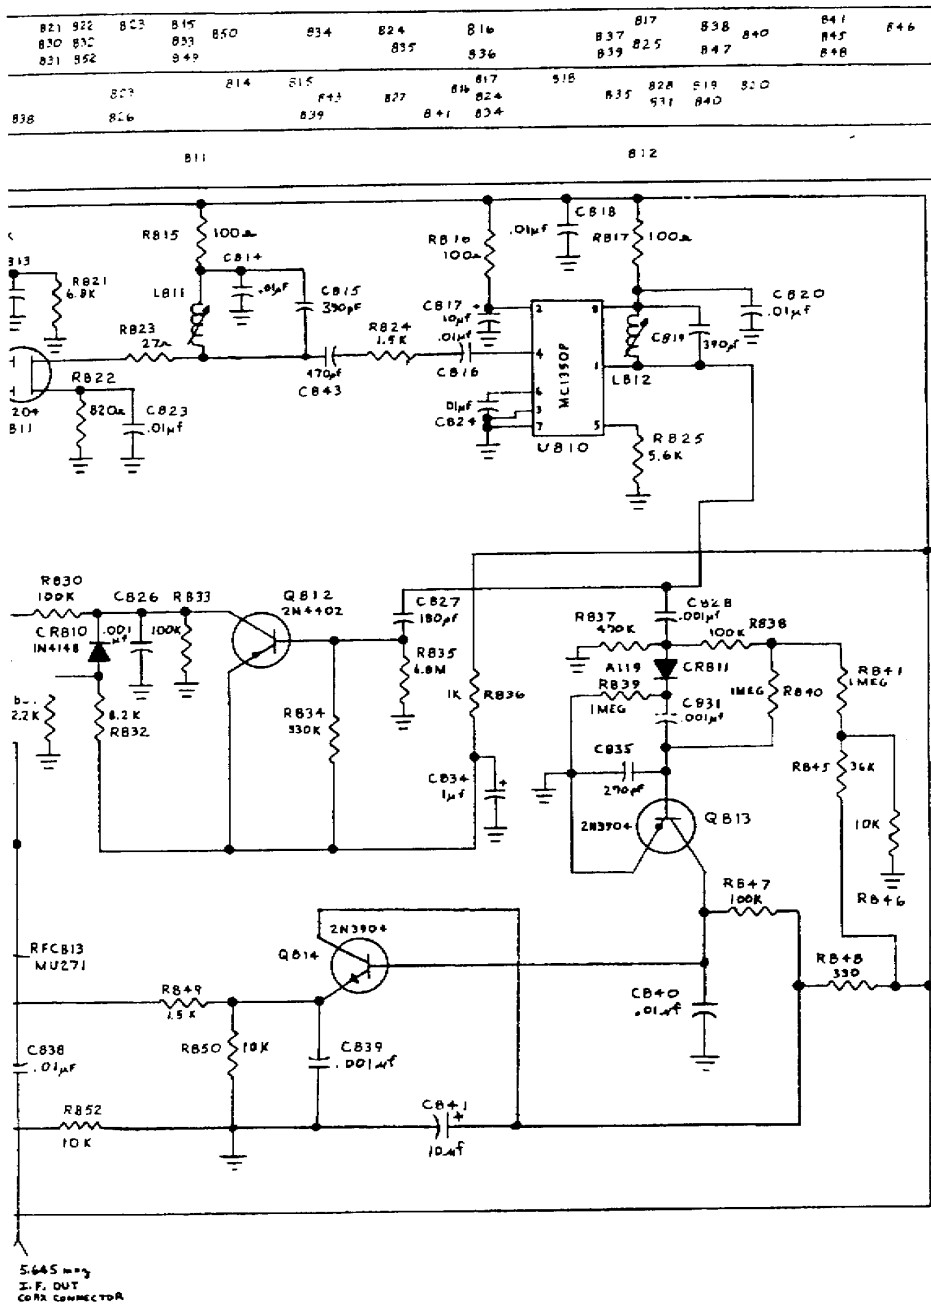

Fig. 4-7 NB-7 Board Schematic, Version 1
- 5) Refer to figure 4-7, and connect VTVM to test pad. Depress NB switch to activate noise blanker.